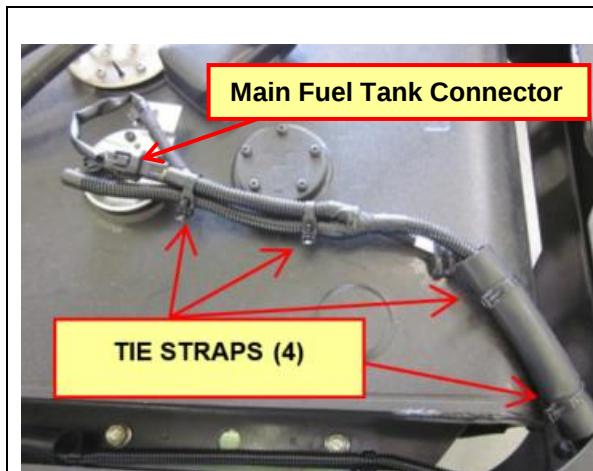

Figure 12
7. Disconnect the Power Take Off (PTO) and Main Fuel Tank connectors. Remove all the tie straps from the Main Fuel Tank section of the harness. (See Figures 12 and 13.)